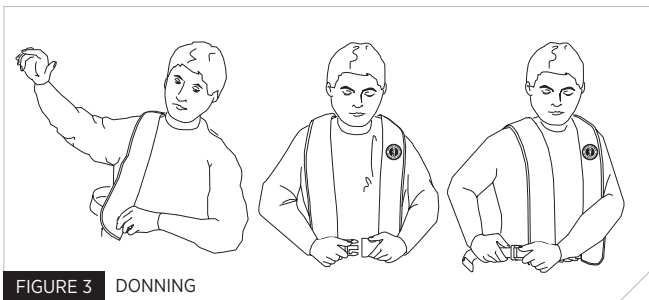

FIGURE 3 DONNING
1. Put the flotation device on just like a vest (Fig. 3), with the fabric panels in the front, and fasten the front buckle.